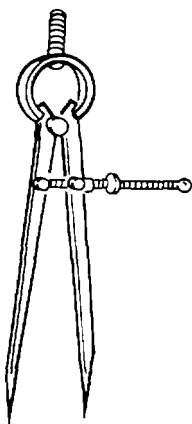

Figure 3-21. Spring Divider
(1) *Spring divider.* A spring divider consists of two sharp points at the end of straight legs, held apart by a spring and adjusted by means of a screw and nut. The spring divider is available in sizes from 3 to 10 inches in length. It is shown in figure 3-21.